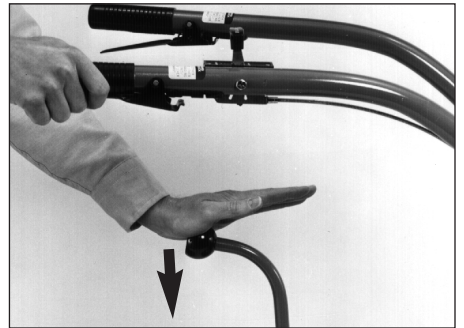

Figure 4-30: Moving tiller forward: squeeze one Forward Interlock Lever and then move Wheels/Tines/PTO Drive Lever down to FORWARD.
1. To move forward, squeeze and hold one Forward Interlock Lever (Figure 4-30) up against the handlebars, and move the Wheels/Tines/PTO Drive Lever down to FORWARD.